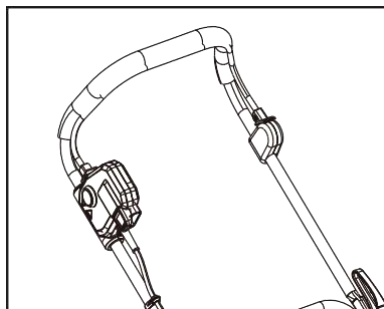

Fig. 9
3. Insert the safety key into the slot. To power on, press and hold the safety lock button while pulling the switch bar lever towards you (See Fig. 9). Once the machine powers on, release the safety lock button and proceed with operation. The lawn mower can only be started by pressing the safety switch button first, followed by squeezing the ON/OFF switch bar lever; reverse operation will not start the machine.